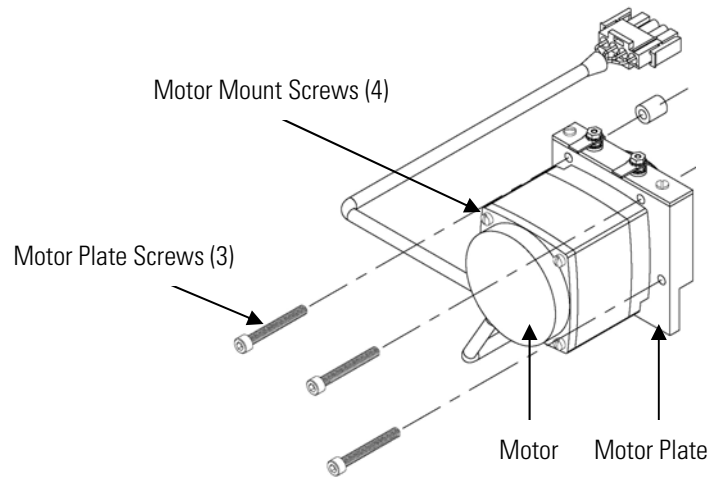

Figure 7-6. Removing the Motor
2. Remove the chopper motor and wheel assembly by removing the three motor plate Allen screws holding the motor plate to the optical bench (Figure 7-6).